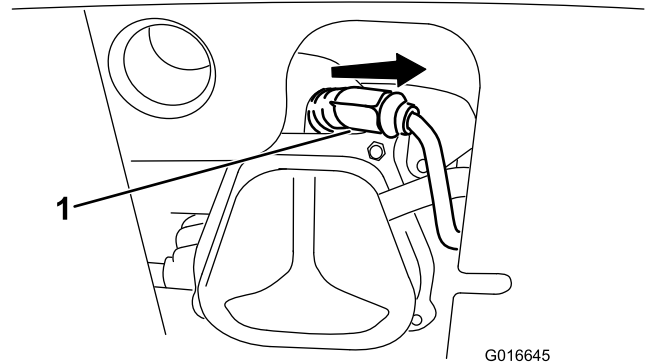

Figure 37
1. Remove the boot (Figure 37).